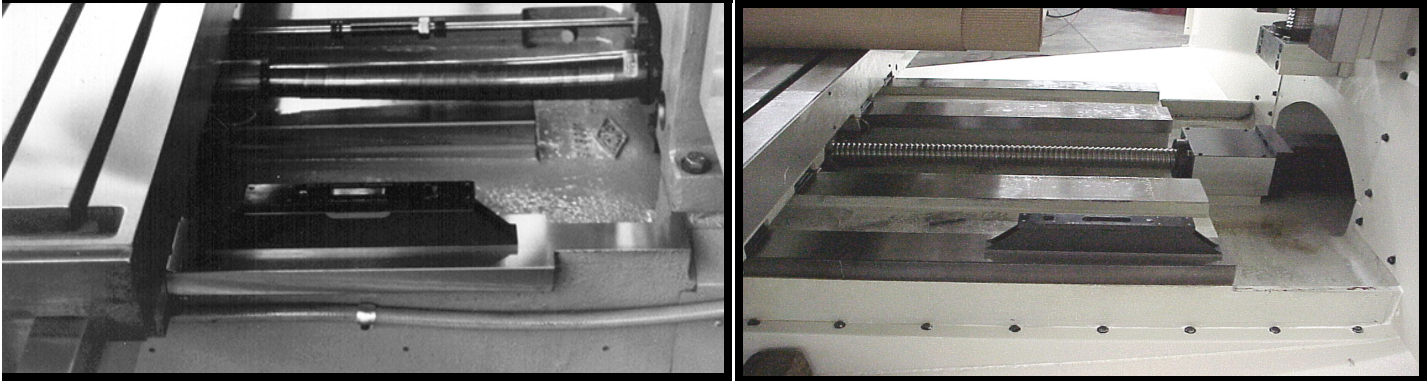

Figure 3-18 Leveling Box Way (6535 on right).
- 3) Place the level on the right hand way (the outer right hand way on the 6535) of the base with the small bubble towards the column. Take an accurate reading. See figure 3-18.